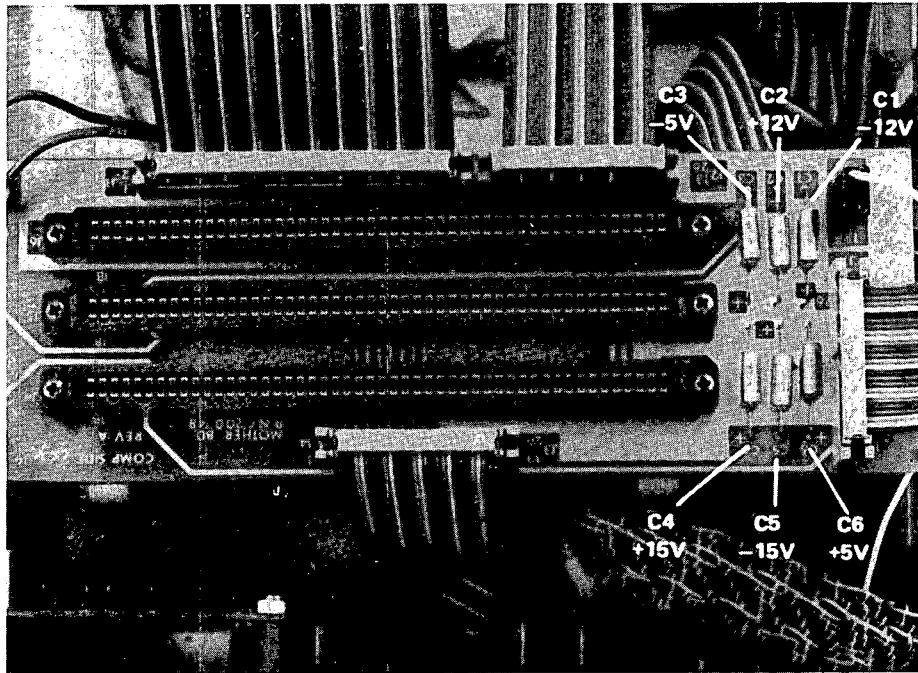

Fig. 7.
10. If a low-voltage dc power supply failure appears to have occurred, the voltages may be measured on the "mother board" (as indicated on Fig. 7).